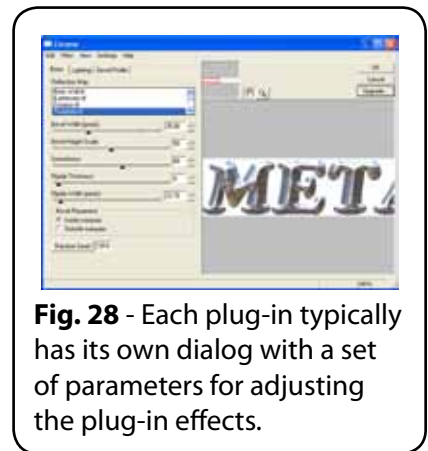

Fig. 28 - Each plug-in typically has its own dialog with a set of parameters for adjusting the plug-in effects.
25. The **Chrome** dialog will open (Fig. 28).